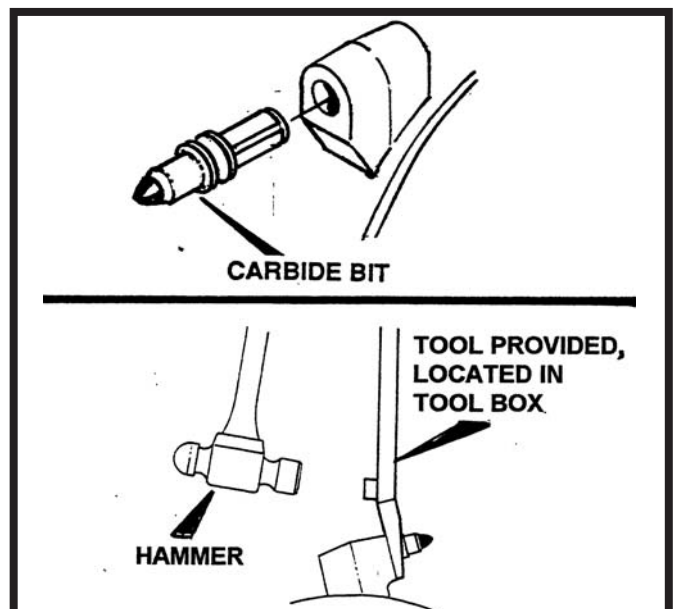

Figure 3
- E. Replace carbide bits that are missing or badly worn. See figure 3.
The carbide bite should be replaced when badly worn. Make sure the replacement is made before the carbide bit housing comes in contact with the surface. Use a hammer and the tool provided to remove the bits. See figure 3.